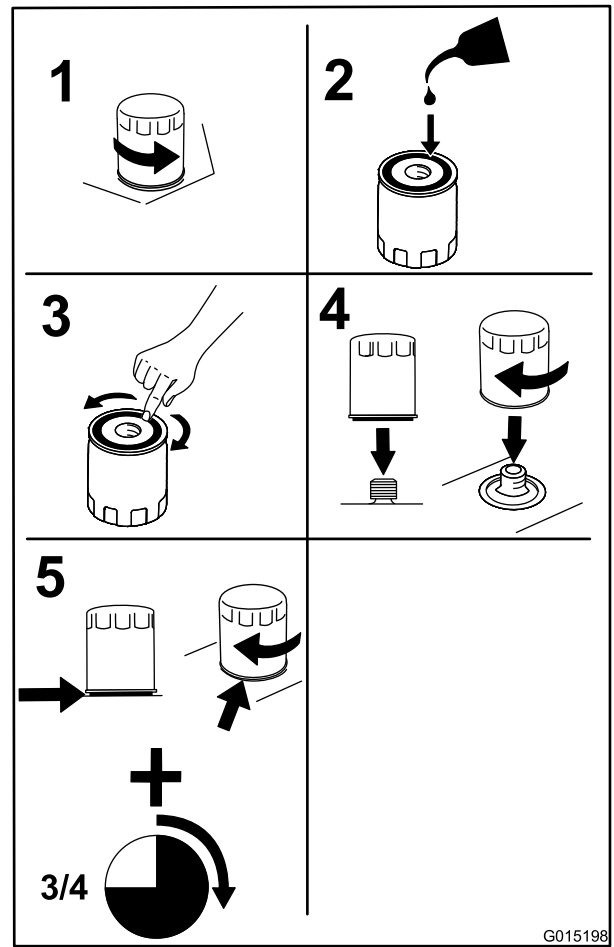

Figure 35
- Change the engine oil filter as shown in Figure 35.